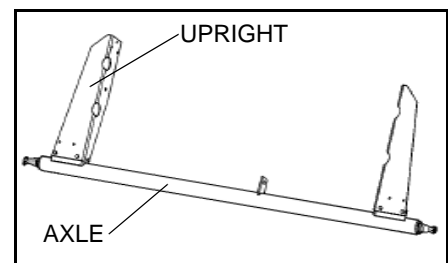

Figure 3.14 Axle Assembly
8. Attach upright brackets to axle using six 7/16" x 1-1/4" bolts and locknuts, hand-tightened only (see Figure 3.14).